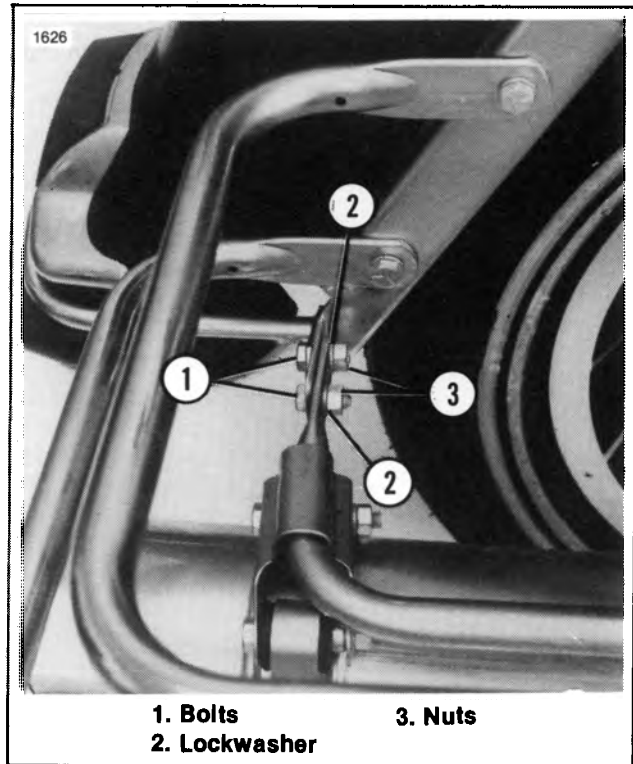

Figure 2-156. Rear Fender Bumper Bolts — FLT
7. See Figure 2-156. Remove the two 5/16-24 bolts, lockwasher and nuts that are used to fasten the lower saddlebag guard to the fender bumper.
8. See Figure 2-156. Install the two bolts, lockwashers and nuts to secure the bumper bracket to the saddlebag guard. Tighten bumper bolts to 19 ft-lbs torque.